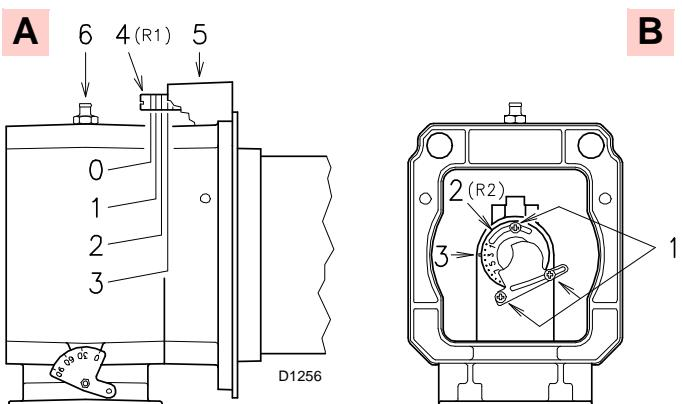

Fig. 16
At this stage of installation the blast tube and the pipe coupling are secured to the boiler as shown in A)(Fig. 16).
- the air R1 (A, Fig. 16)
- the gas/air R2 (B, Fig. 16)
Rotate the screw 4)(Fig. 16) until the notch you have found corresponds with the front surface 5)(Fig. 16) of the flange.
To facilitate the adjustment, loosen the screw 6) (Fig. 16), adjust, then block.
Loosen the 3 screws 1)(Fig. 16) and rotate the ring nut 2) until the notch you have found corresponds with the index 3). Block the 3 screws 1).
The diagram (Fig. 17) indicates the optimum adjustment for a type of boiler according to Fig. 4 on page 12. If the gas pressure allows it, by closing the ring nut 2) (Fig. 16) you obtain reductions in the formation of NOx.